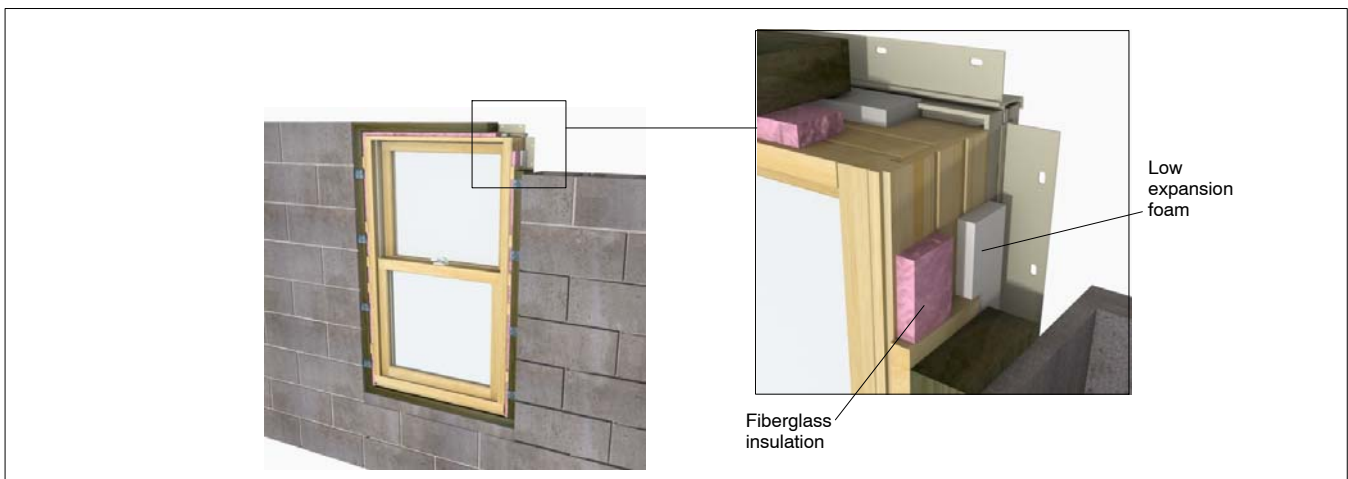

Figure 11: Insulating the rough opening
4. Apply a 1"–2" (25–51) thick bead of low expansion foam insulation on the back side of the nailing fin, brick mould casing or other trim. Do not apply too much as it is possible to bow the jambs. Now insulate loosely around the window with fiberglass insulation. See figure 11.
5. **Interior and mullion trim:** Install mullion trim after interior trim or casing is applied. On Wood Ultimate Double Hung units, be sure to use nails and staples that are no longer than 3/4" (19). Place fasteners at least 1" (25) from the edge of interior jamb liner.